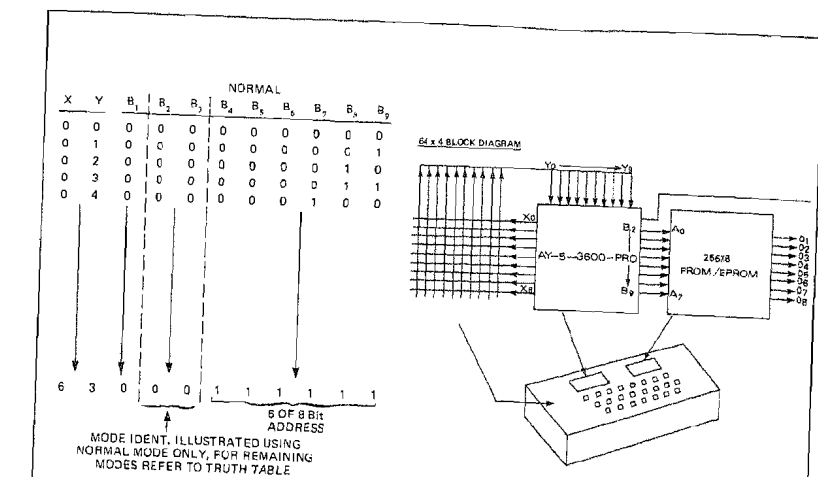

Fig. 8 64 KEY 4 MODE KEYBOARD APPLICATION
The 64 key 4 mode application as illustrated in Fig. 8 utilized keyboard encoder addresses X0 Y0 thru X6 Y3. A unique combination of one input (Y) and one output (X) is assigned to each key, for a total coverage of 64 keys. Binary coded outputs B2-B8 have been arranged to provide the necessary 8-bit address inputs to the PROM/EPROM, with B2 and B3 representing the variable mode identification and B4-B8 each specific key closure.